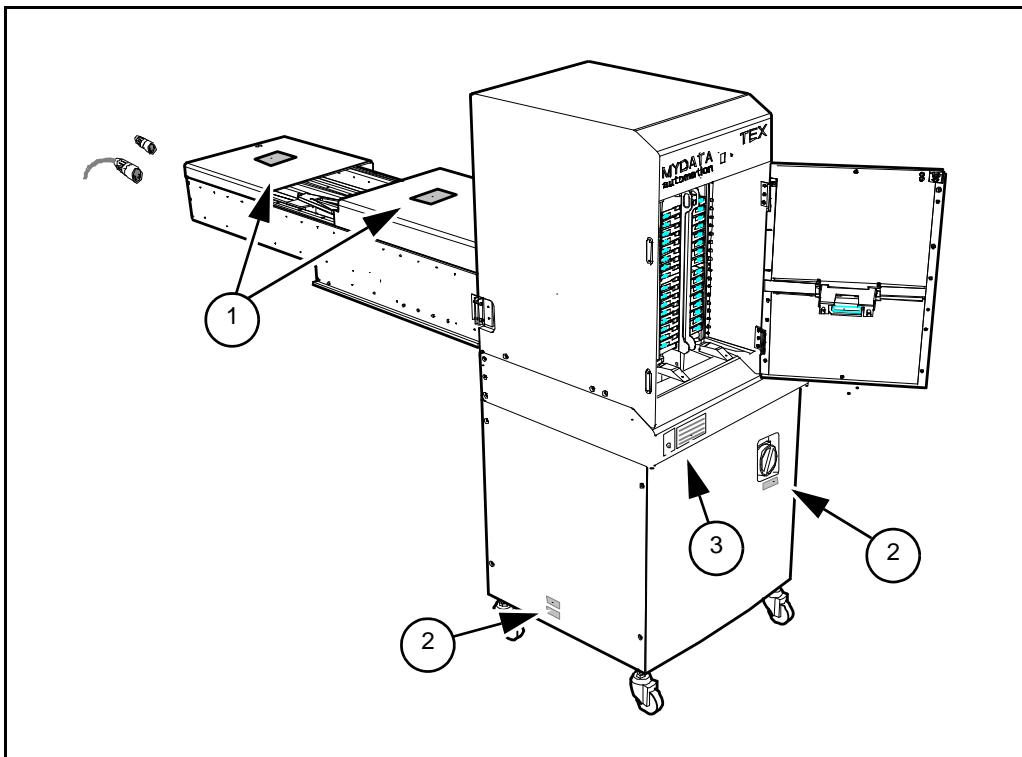

Figure 1-13. TEX Tray Exchanger.
- The front or rear cover is opened ('1' in Figure 1-13).
The warning signs are located as shown in Figure 1-13.
Two warning signs are applied on the safety hoods as shown in Figure 1-13.
Two warning signs are applied as shown in Figure 1-13.
Sign 3 (D-024-0345) states the laser classification for TEX units equipped with laser barcode scanner. One certification sign is applied as shown in Figure 1-13.